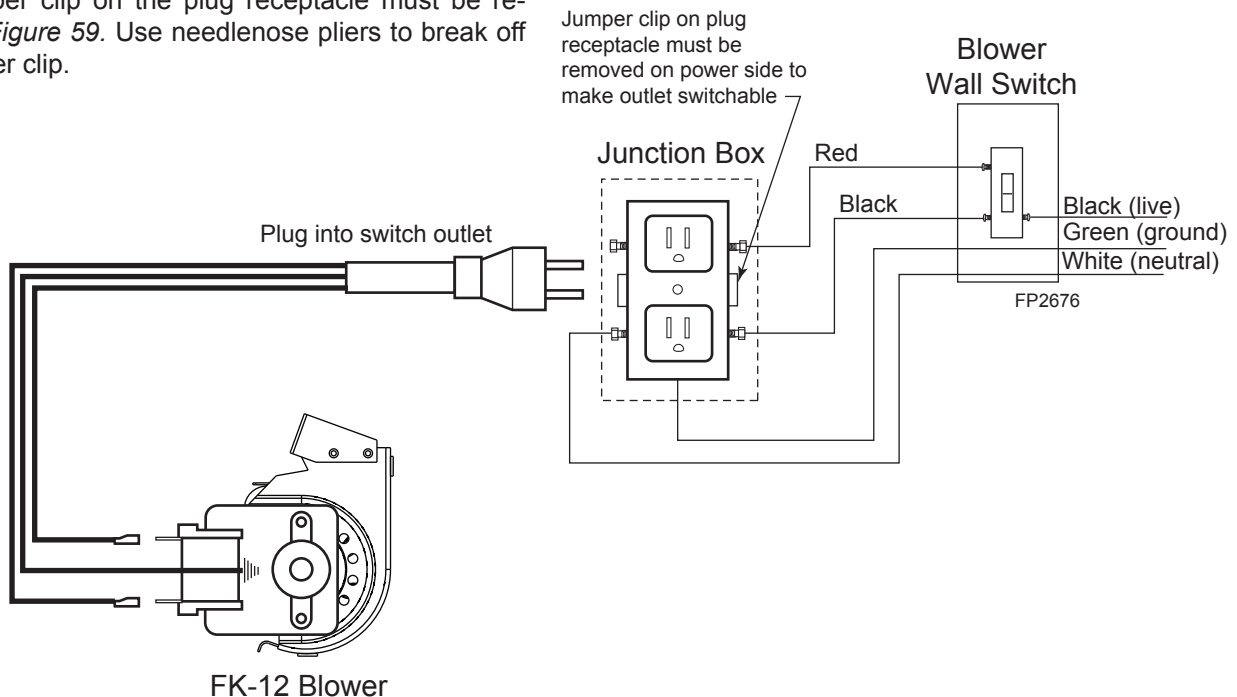

Figure 59 -
3. The jumper clip on the plug receptacle must be removed. *Figure 59.* Use needlenose pliers to break off the jumper clip.